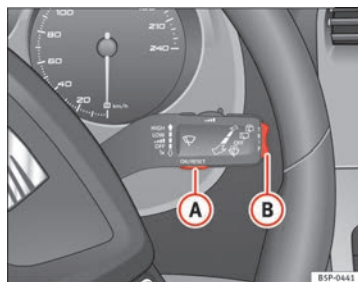
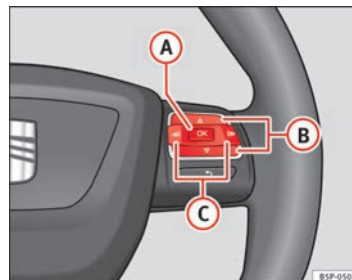

Fig. 44 Windscreen wiper lever: button A to confirm the menu selection and rocker switch B to change the menu
Fig. 45 Steering wheel controls: button A to confirm the menu selection and switch B to change the menu
- To access the “Configuration” menu, press button **(C)** ⇒ Fig. 45 until the menu is displayed. Now you are in this menu.
- To change from one memory to another, briefly press button **(A)** ⇒ Fig. 44 ⇒ page 67 on the windscreen wiper lever or the **(OK)** button on the multifunction lever ⇒ Fig. 45 ⇒ page 67 while the ignition is switched on. ▶
The following data can be viewed on the multifunction display using the rocker switch **(B)** ⇒ Fig. 44 ⇒ page 67 on the windscreen wiper lever or by pressing button **(A)** or **(V)** ⇒ Fig. 45 on the multifunction steering wheel*.
- Press button **⏪** or **⏩** on the multifunction steering wheel* ⇒ Fig. 45 until the **Vehicle Status** menu is displayed.